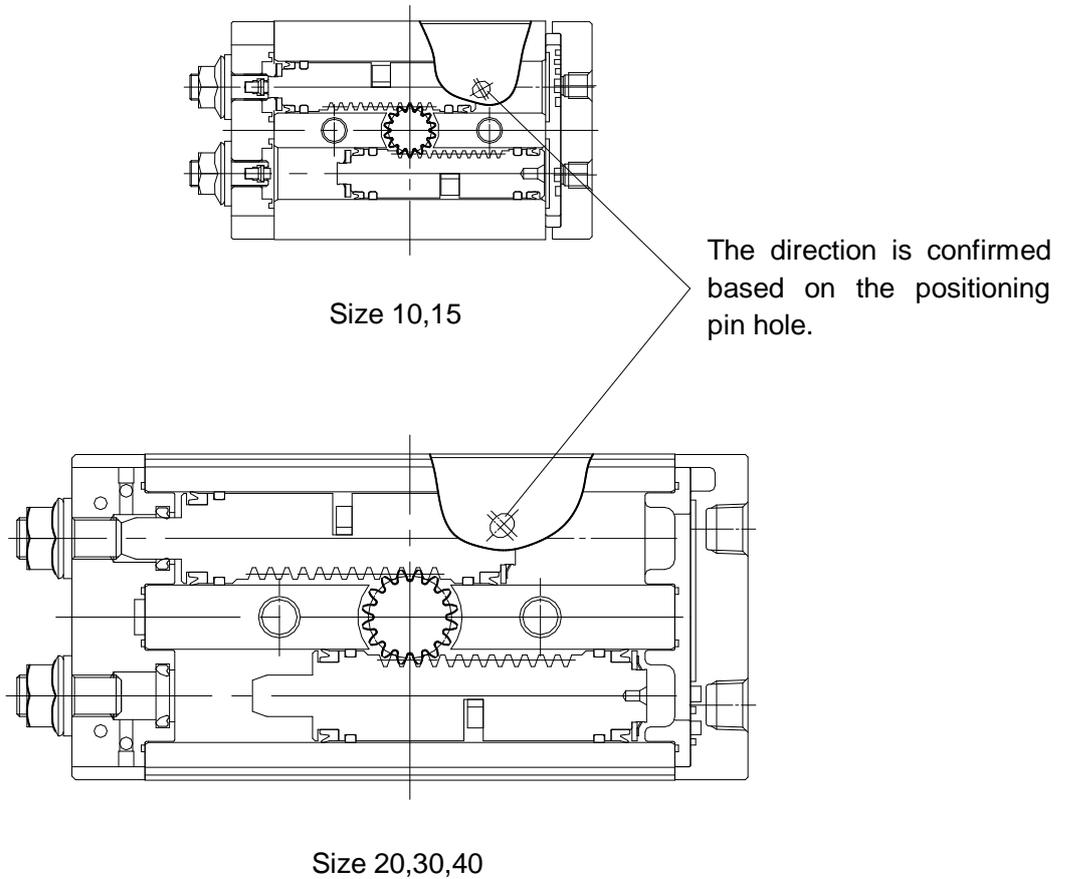

Fig.23
- (2) Set the bearing to the housing of the body, and insert the piston Assy to the body. Since the piston packing goes through the bearing housing, insert the piston Assy slowly pressing the packing inside so that packing is not gouged. Pay attention to the direction when you insert the piston. (See fig. 23)